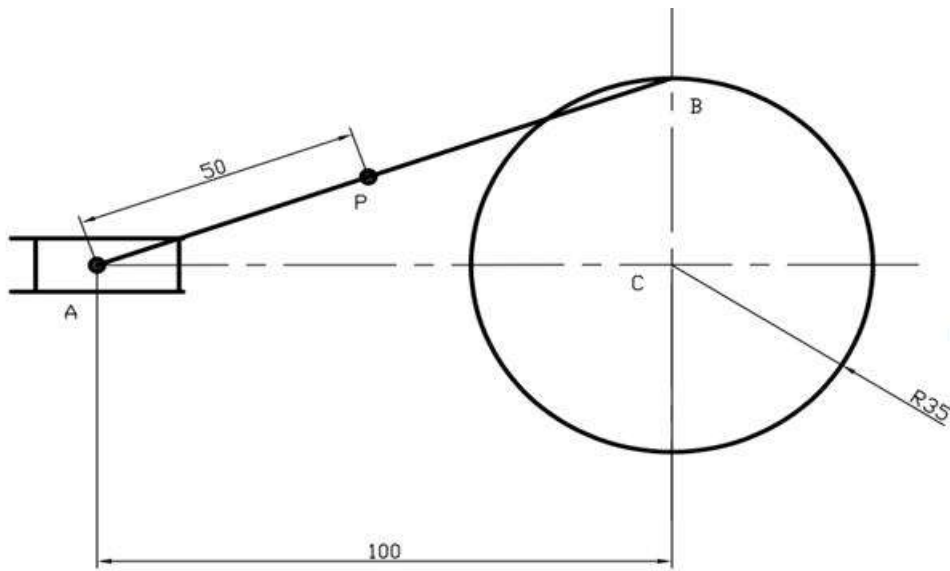

Figure 1
10. **Figure 1** shows a crank BC rotating about a fixed center C. A rod AB is pin-jointed to the crank at B and freely moves in the guide at A. Draw the locus of a point P for one revolution of crank.